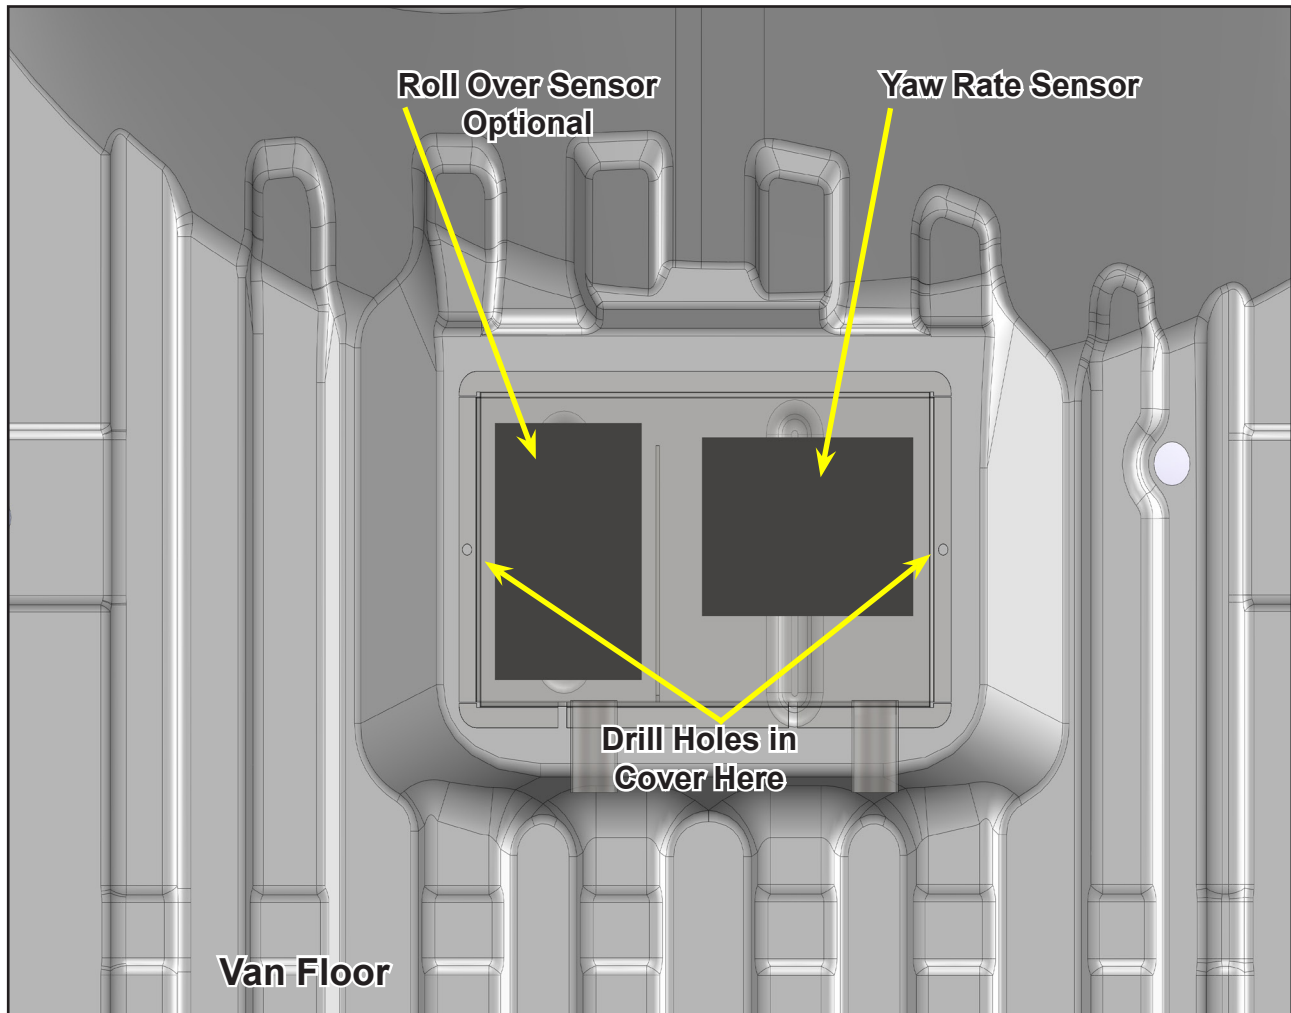

Figure 6. Top Down View of Van Floor - Mount New Cover Over Yaw Sensor
1. With either the #16 or #17 drill bit, drill two holes into the sheet metal floor, using the two holes from the cover as a reference (see Figure 6).